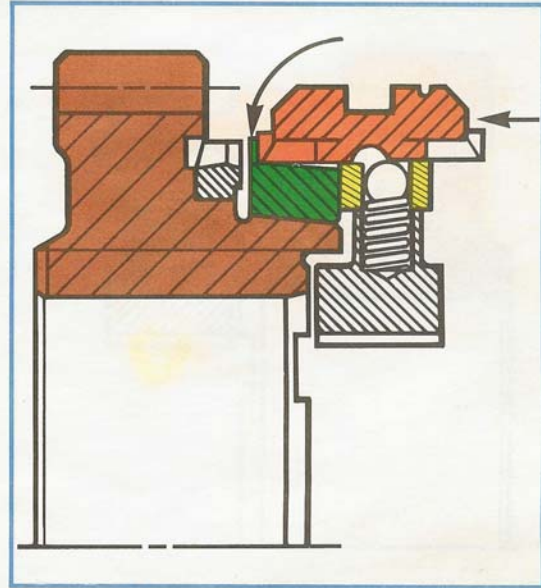

Figure 1-56, Chamfers Pushing the Blocking Ring.
- The synchronizer tooth chamfers now contact the chamfered teeth of the blocking ring (Figure 1-56). This adds further pressure to the blocking ring, pushing its cone surface onto the mating cone surface of the gear.